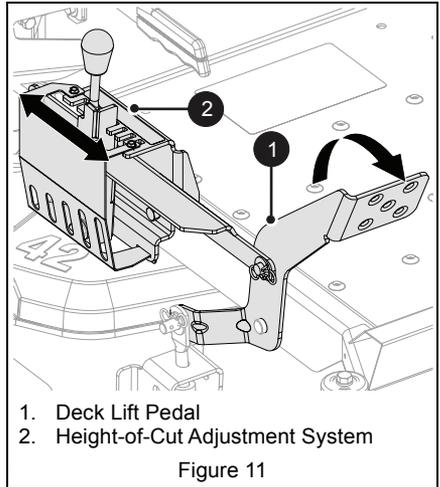

Figure 11
5. Set cutting height. See Figure 11.